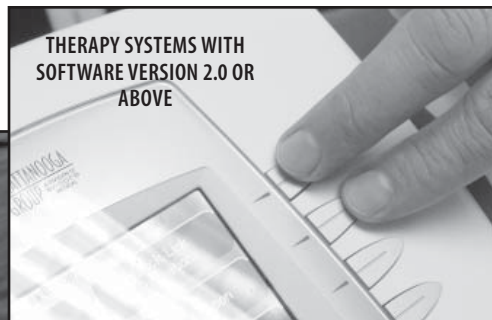

FIGURE 8.1
1. Enter the Technical Service Screen of the Therapy System by pressing the Stop, Pause, and Start Buttons simultaneously. **See Figure 8.1.**
To access the Technical Service Screen of Therapy Systems with Version 2.0 or above software, simultaneously press the two buttons located at the upper right of the screen. **See inset at Figure 8.1.**